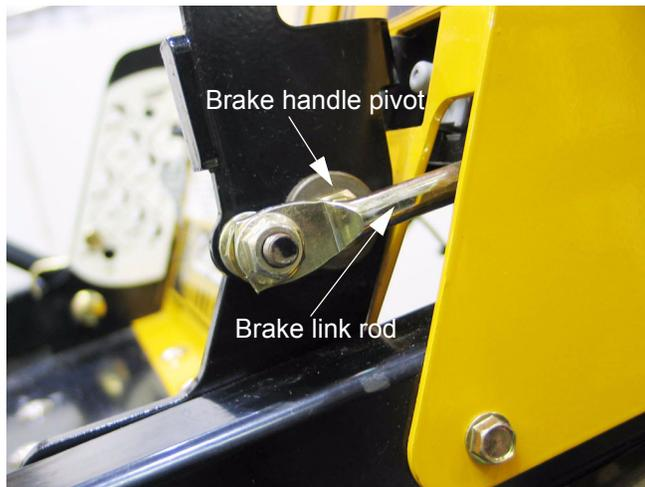

Figure 21.37
21.37. Adjustment is made by loosening the post and extending the steering lock rod to the limit of its travel. See Figure 21.37.